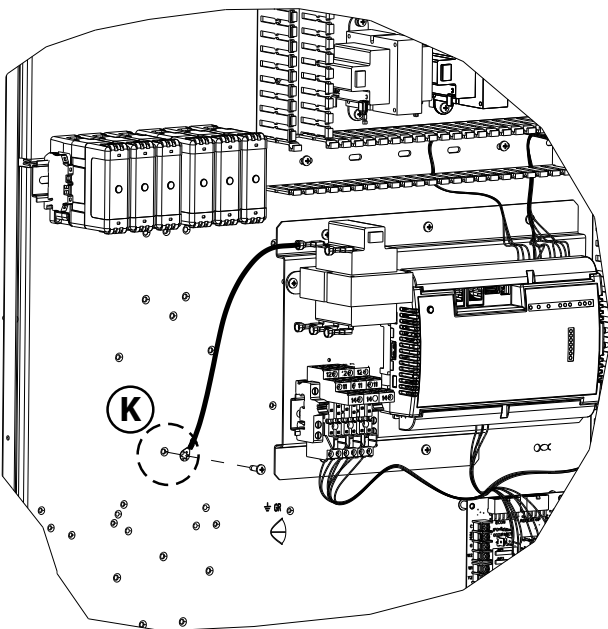

Fig. 13 — Chassis Ground Connection
5. Use a No. 8 screw and connect the main harness connector labeled “GND CHASSIS” to available ground position in the unit. (See Fig. 13.)